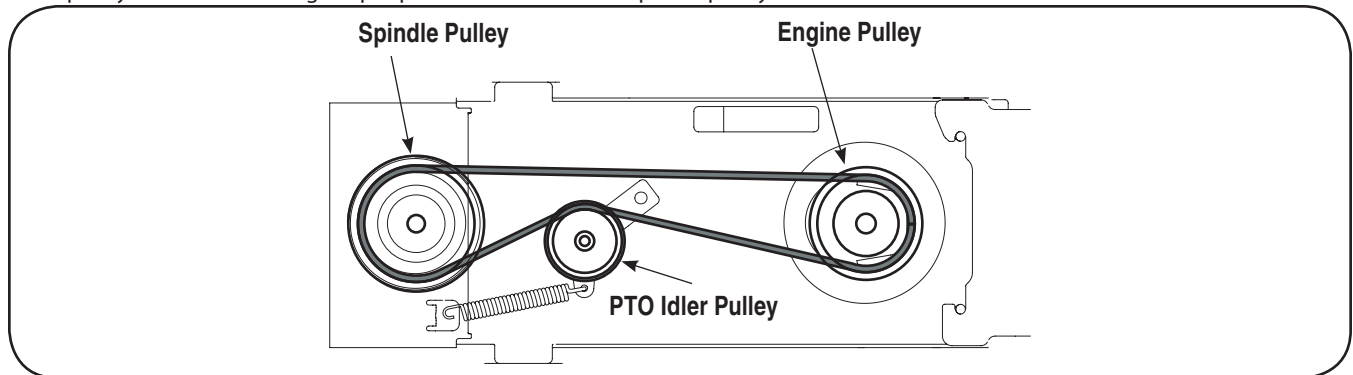

Figure 3-18
1. Attach and route upper drive belt around spindle pulley and idler pulley found on undercarriage, electric PTO clutch and PTO idler pulley as illustrated in Fig. 3-18. Make sure that the belt is routed to the INSIDE of the belt keeper on the undercarriage idler pulley and the remaining keeper pins found around the spindle pulley.